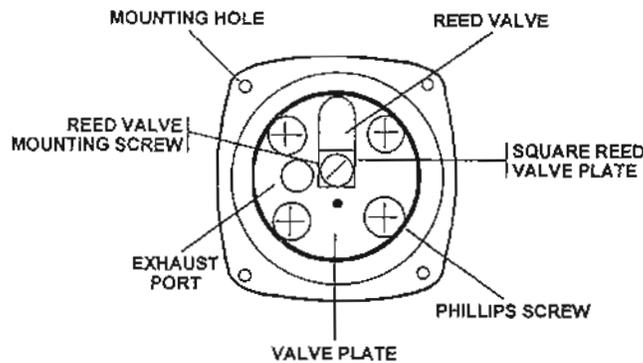

Figure 3-7. Pump head.
(6) Place the vacuum pump head and manifold upside down on a work surface padded with a soft cloth to prevent damage to the "VACUUM ADJUST" knob or the vacuum gauge (fig 3-7).
(4) Reinstall the valve plate into the vacuum pump head by orienting it with figure 3-7.
(5) Position the vacuum pump head onto the vacuum pump and reinstall the four Phillips screws.
(6) Reconnect the collection canister to the manifold tubing connector.
(7) Return the rinse bottle and other accessories to the storage compartment of the case.
(8) Close and latch the lid of the suction apparatus case for a nonuse period or prepare it for operation by following the routine start-up procedures in paragraph 2-6.